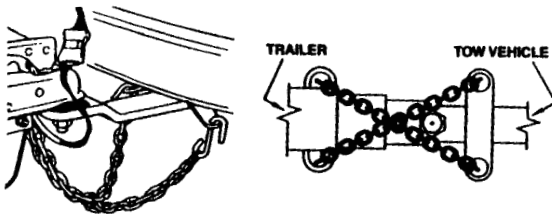

Figure P13: Crossing the Safety Chains
- Safety chains are provided and must be used. Cross the safety chains under the coupling and attach to the towing vehicle's frame or bumper. See Figure P13. Always allow slack for turns. Four Winns provides securement clips for the safety chain hooks and recommends you use them. Regulations vary from state to state. Please check the local laws in your state.